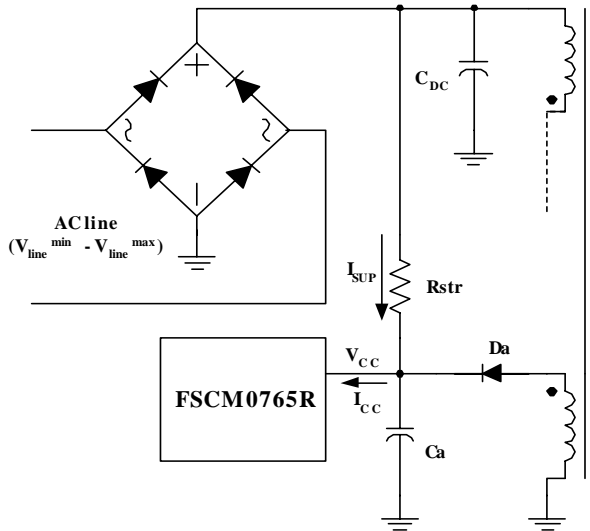
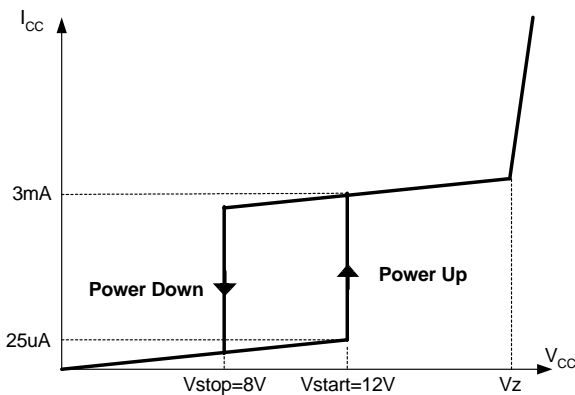

Figure 16. Startup Circuit
Figure 17. Relation Between Operating Supply Current and V_{cc} Voltage
1. Startup: Figure 16 shows the typical startup circuit and transformer auxiliary winding for the FSCM0765R application. Before the FSCM0765R begins switching, it consumes only startup current (typically 25uA) and the current supplied from the DC link supply current consumed by the FPS (I_{cc}), and charges the external capacitor (C_a) that is connected to the V_{cc} pin. When V_{cc} reaches start voltage of 12V (V_{START}), the FSCM0765R begins switching, and the current consumed by FSCM0765R increases to 3mA. Then, the FSCM0765R continues its normal switching operation and the power required for this device is supplied from the transformer auxiliary winding, unless V_{cc} drops below the stop voltage of 8V (V_{STOP}). To guarantee the stable operation of the control IC, V_{cc} has under voltage lockout (UVLO) with 4V hysteresis. Figure 17 shows the relation between the current consumed by the FPS (I_{cc}) and the supply voltage (V_{cc}).